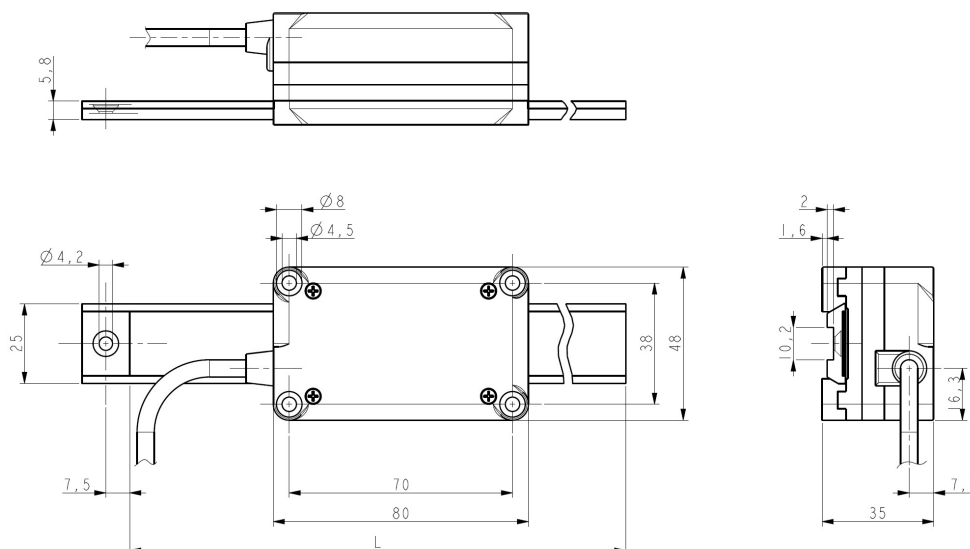

Figure 1
3.1 Overall dimensions (Figure 1)
Use **four TCEI M4 UNI 5931 type cylinder head screws** inserted from the top in the holes provided at the four angles of the enclosure. The screws must be 37 mm min. long (see Figure 1). **The maximum tightening torque is 1.2 Nm.** We suggest adding a few drops of threadlocker of medium bond strength. The fixing support will be placed at the bottom of the sensor case. Make sure that the cable does not block or hamper the movement of the sensor.
3.5 Measuring length (Figure 1)
The **maximum tape length L** is between 195 mm / 7.677" and 650 mm / 25.59" (for further information refer the order code in the product datasheet). As the sensor area has always to be fully within the limits of the tape magnetic surface, then the **maximum measuring length ML** is the maximum tape length minus the sensor length (see the Figure 1) = $L - 80 \text{ mm} / 3.149" (115 \text{ mm} / 4.528" \div 570 \text{ mm} / 22.441")$.